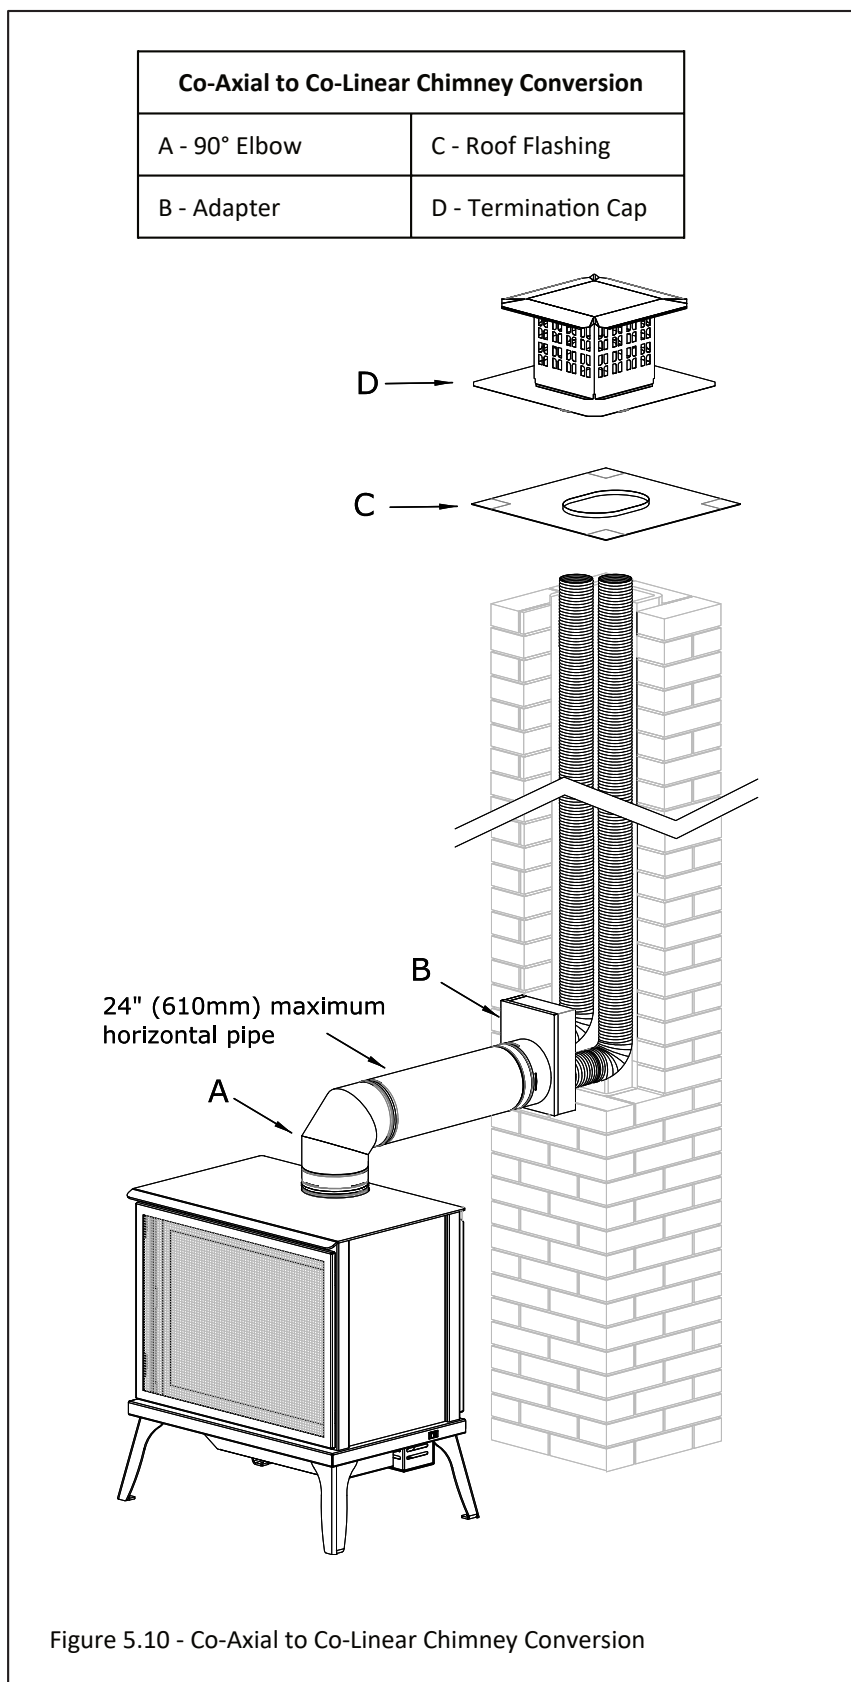

Figure 5.10 - Co-Axial to Co-Linear Chimney Conversion
- Follow Figure 5.10 for allowable venting configurations for installation in existing masonry chimney. Route the exhaust gases and intake air through the existing masonry chimney.